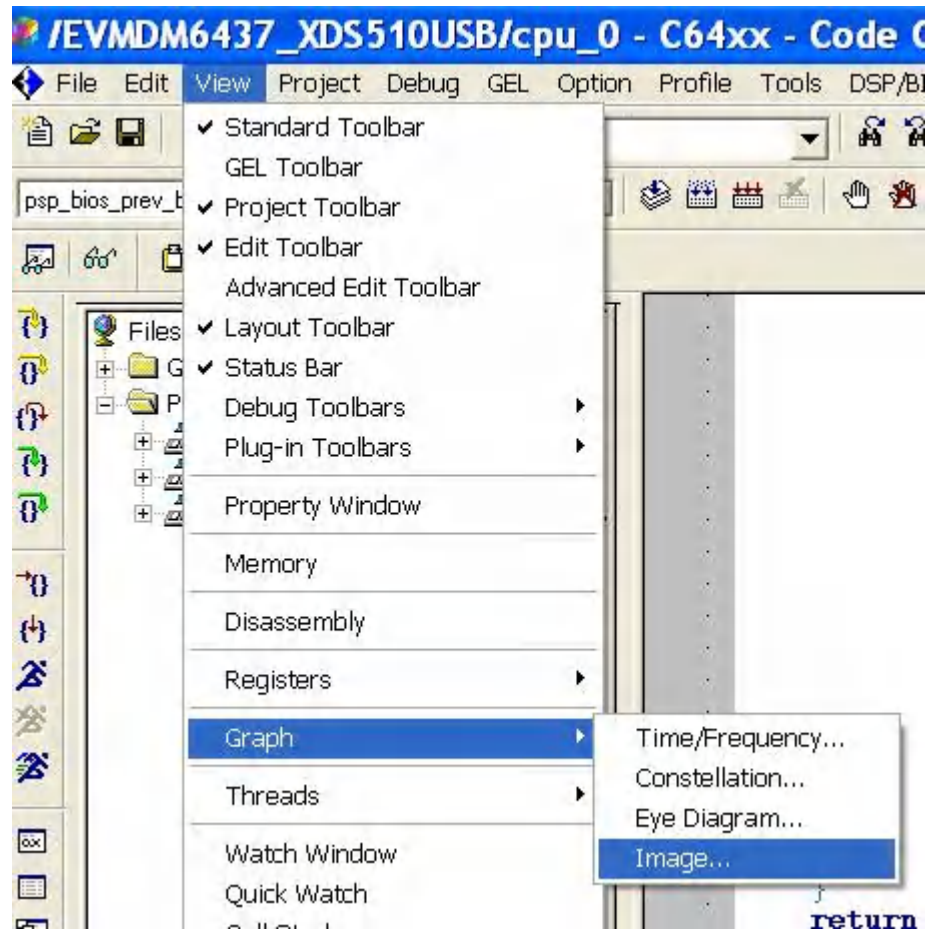

Figure 1. CCS View->Graph->Image
7. Now, the output image from Previewer can be viewed in CCS image viewer. To view the image, go to View->Graph->Image as shown in Figure 1.